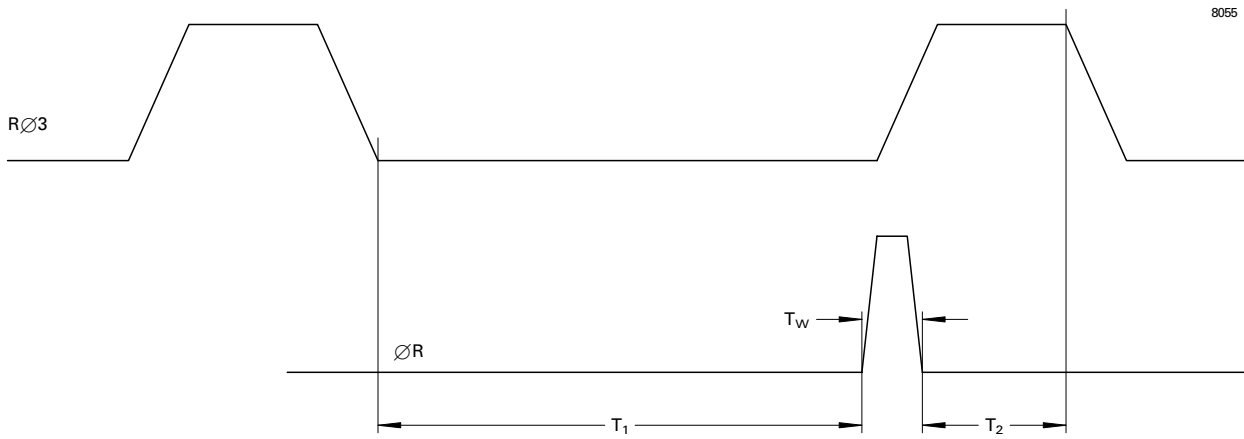

**Figure 8: CLOCKING SCHEME FOR MULTIPLICATION GAIN
13. An example clocking scheme is shown in Fig. 7. RØ2HV can also be operated with a normal clock pulse, as shown in Fig. 8. The requirement for successful clocking is that RØ2HV reaches its maximum amplitude before RØ1 goes low.